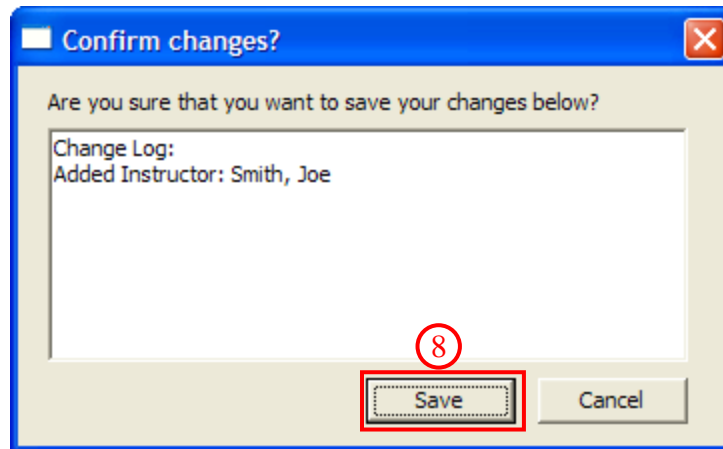

Figure 34. Instructor - Confirm Additions Changes Dialog
8. A prompt is displayed detailing the addition/changes. Click the [SAVE] button to confirm (Figure 34).